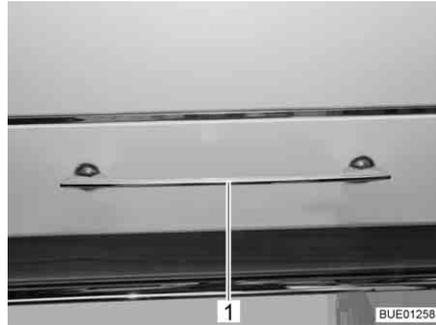
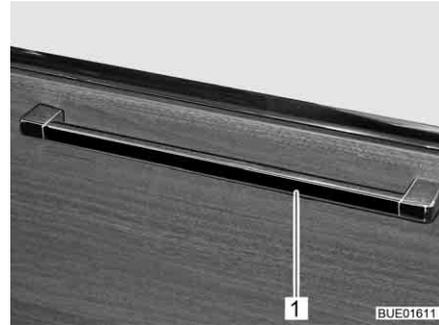

Fig. 77 Furniture flap with release handle
Fig. 78 Furniture flap with release handle (alternative)
- Press the release handle (Fig. 77,1 or Fig. 78,1) upwards, to the side or downwards depending on the fitted position and hold it down.